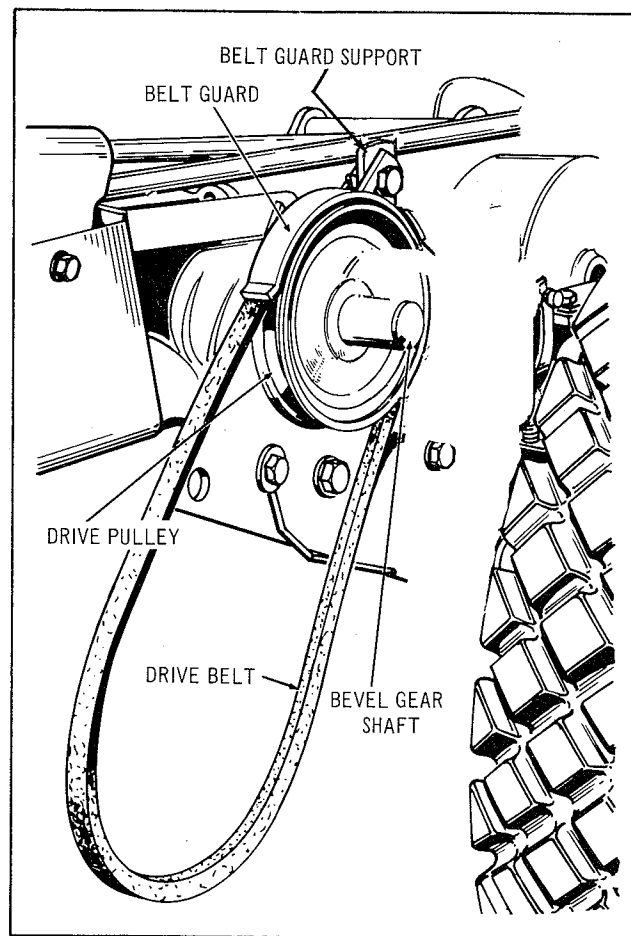
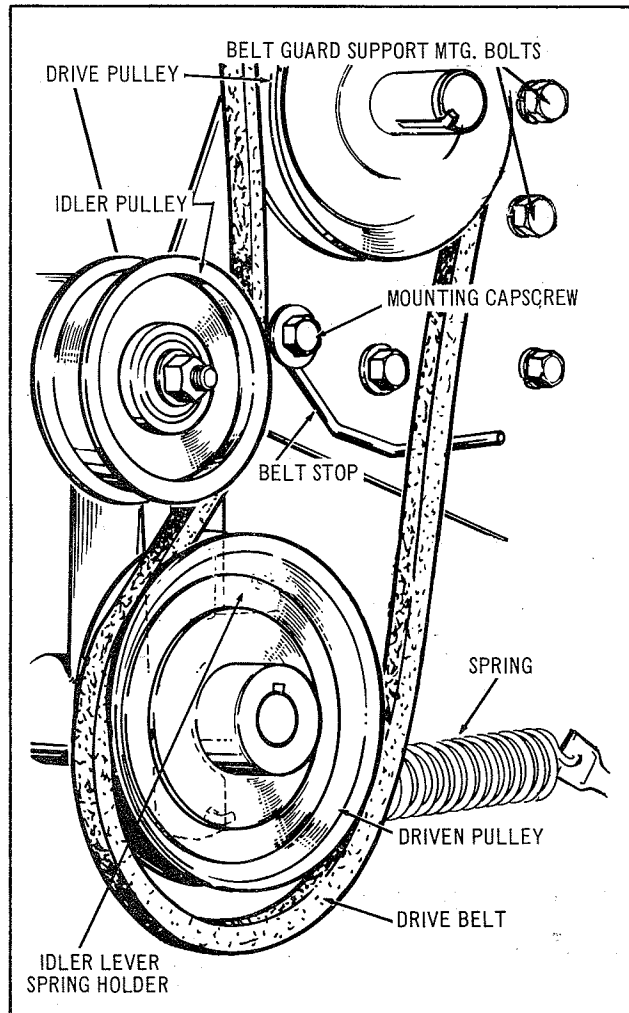

FIG. 15
FIG. 19
1. Mount Drive Pulley to Shaft of Bevel Gear Assembly See Figure 15, and secure in place with Key and Set Screw. Hub of Drive Pulley is to face inward. Place Drive Belt on Drive Pulley and mount Belt Guard Support to inside surface of Side Plate nearest Drive Pulley. See Figure 19 for Mounting Bolt location. Attach the Belt Guard to the Guard Support as shown in Figure 15. Allow approximately 3/16" clearance between Belt and Guard.
5. Remove Front Hex. Cap Screw from Pull Bar. Replace with stud 157273 provided. Short end inserted. Slip on Handle Assembly and tighten with Hex. HeadLock Nut to permit free movement of handle. Mount "V" Belt in place on driven pulley as shown in Figure 19 and attach spring to hole provided in the bottom of the Bracket Assembly. Hook
other end of the spring to the Handle Assembly. Mount Belt Stop as shown with 3/8" Bolt, Flat Washer, Lock-washer, and Hex. Nut. When Implement is attached to tractor with Idler Pulley engaged, 1/8" clearance between Belt Stop and back of "V" Belt is required. NOTE: "V" Belt runs under Idler Pulley. See Figure 19.